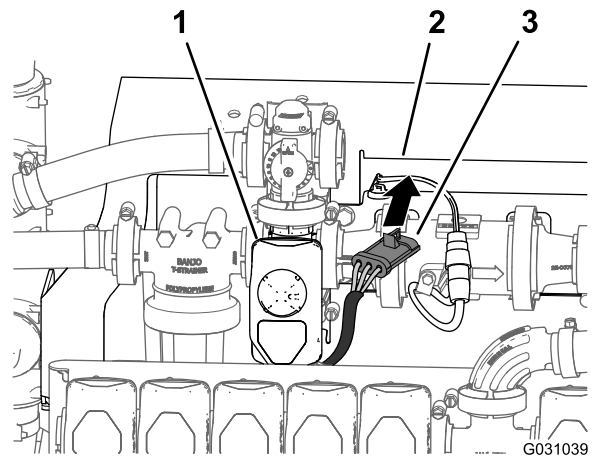

Figure 129
5. Route the 3-pin connector for the harness of the agitation valve forward of the manifold mount (Figure 129).